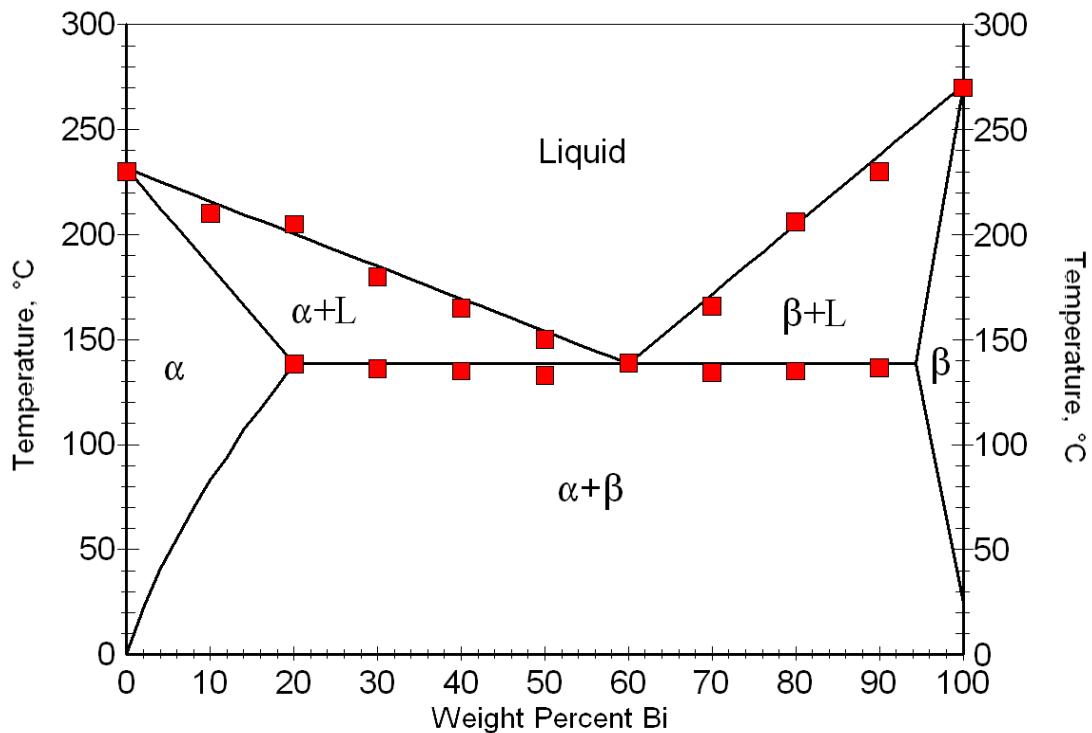

Figure 2 Example of a Bi/Sn equilibrium phase diagram produced in this experiment.
- Method 3 – Generate a spreadsheet that will draw the reference phase diagram and let you plot your measured temperatures on this graph. See figure 2 for an example. You will have to read the temperatures from your reference phase diagrams and enter them into your spreadsheet, or you can import these numbers from the file Bi-Sn Phase Diagram.csv located on the teaching laboratory’s server and on the course’s web site.